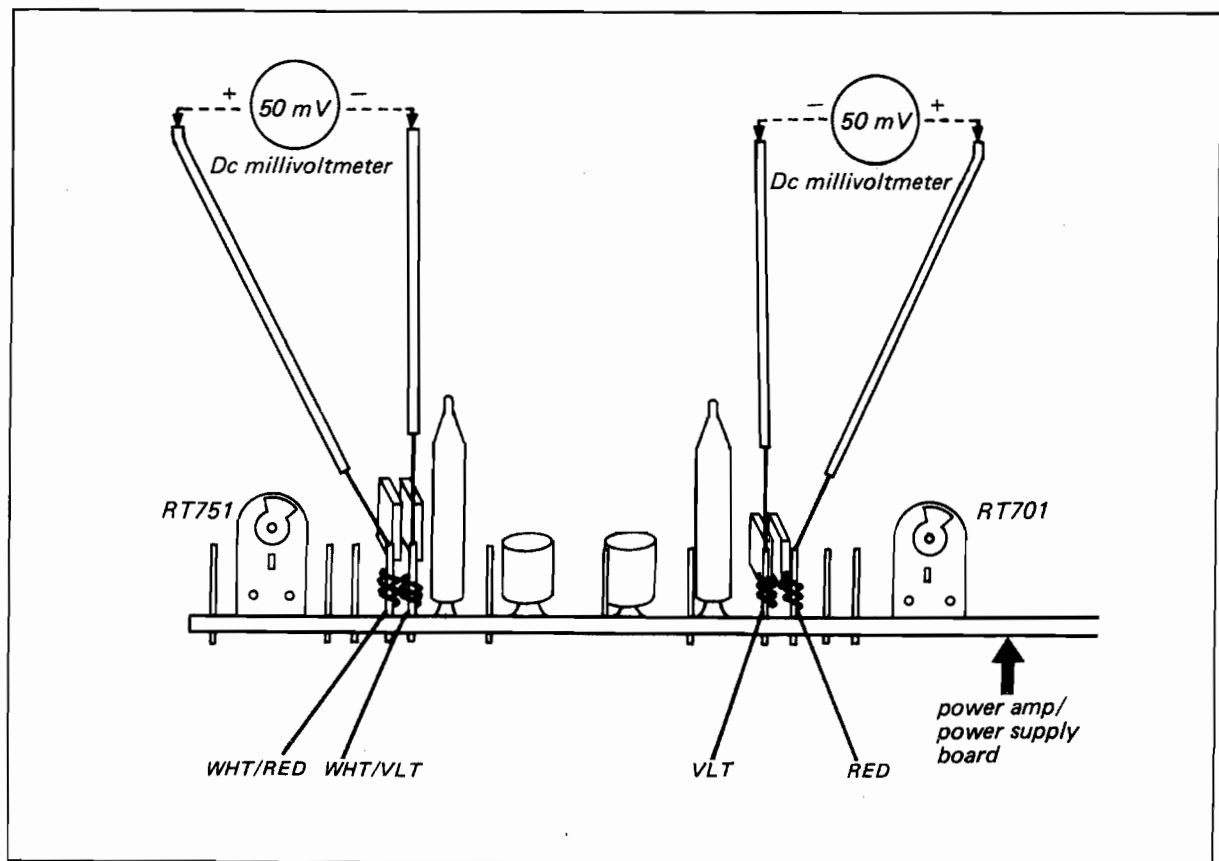

Fig. 3-11. Power amplifier adjustment test setup
2. Connect the dc millivoltmeter across the test points as shown in Fig. 3-11.
3. Turn the adjustable resistors RT701 and RT751 on the power amp/power supply board fully counterclockwise as shown in Fig. 3-11.